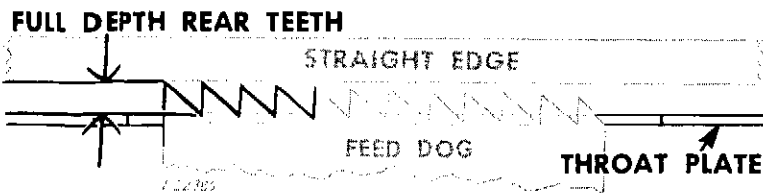
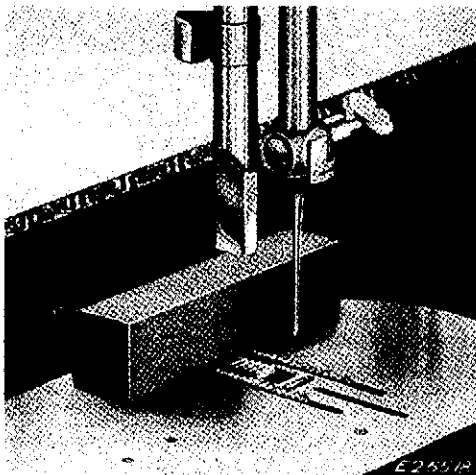
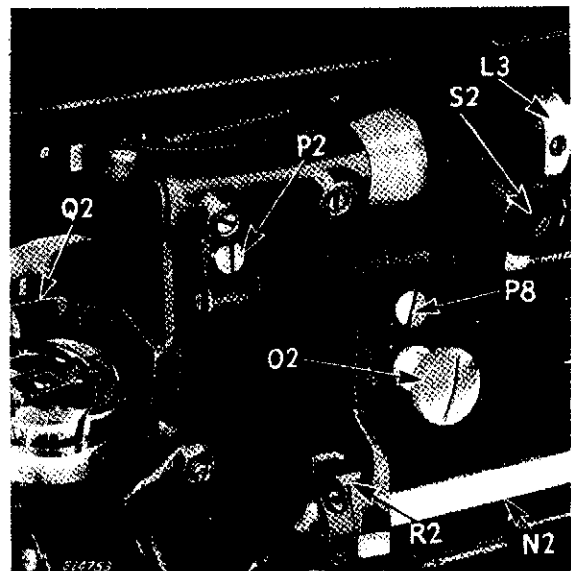
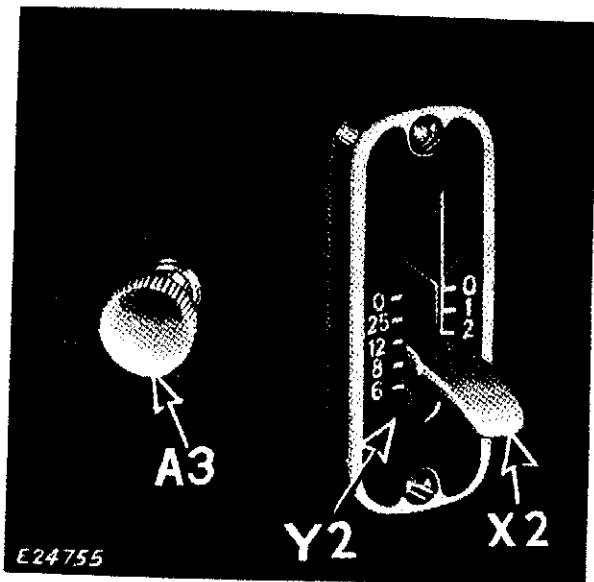

Fig. 38. Feed Dog at Correct Height
Fig. 38A. Feed Dog Height Being Set with Gauge
Fig. 39. Adjusting Height of Feed Dog
Fig. 43. Stitch Regulating Handle
Make sure feed throw-out thumb screw **O2**, **Fig. 39** is tightened in place.
To check the height of the feed dog, tighten feed throw-out thumb screw **O2**, Fig. 39, turning it clockwise as far as possible. Then set the stitch regulator **X2**, Fig. 43, page 33 for the longest stitch.
Turn the hand wheel over toward you until the feed dog is raised to its highest point. In this position, the full depth of the rear teeth of the feed dog, farthest from operator, should project above the top surface of the throat plate, as shown in Fig. 38. Gauge No. G34202 for setting correct feed dog height is shown in use in Fig. 38A.
To set the feed dog at the correct height, loosen clamping screw **P8**, Fig. 39 and raise or lower the feed dog **Q2**, Fig. 39 as required. Then securely tighten clamping screw **P8**.
When setting the feed dog at the correct height as shown in Fig. 38, make sure bottom of feed dog Q2, Fig. 39 clears hook assembly before clamping screw P8 is tightened.
Tighten feed throw-out thumb screw **O2**, Fig. 39.
To adjust the **sidewise position** of the feed dog, loosen feed rock shaft bearing set screw **S2**, Fig. 39 and loosen the two screws on collar **L3**.
The distance between the stitches along the line of feed is termed the **stitch length** and is determined by the setting of the stitch regulator lever **X2**, Fig. 43 on the stitch indicator plate **Y2**.
When the top surface of the stitch regulator lever **X2**, Fig. 43 is set level with the "zero" on indicator plate **Y2**, there should be a slight forward movement of the feed so as to get best results in satin stitching.
1. Lock stitch regulator handle at zero position with stop screw **A3**, Fig. 43.